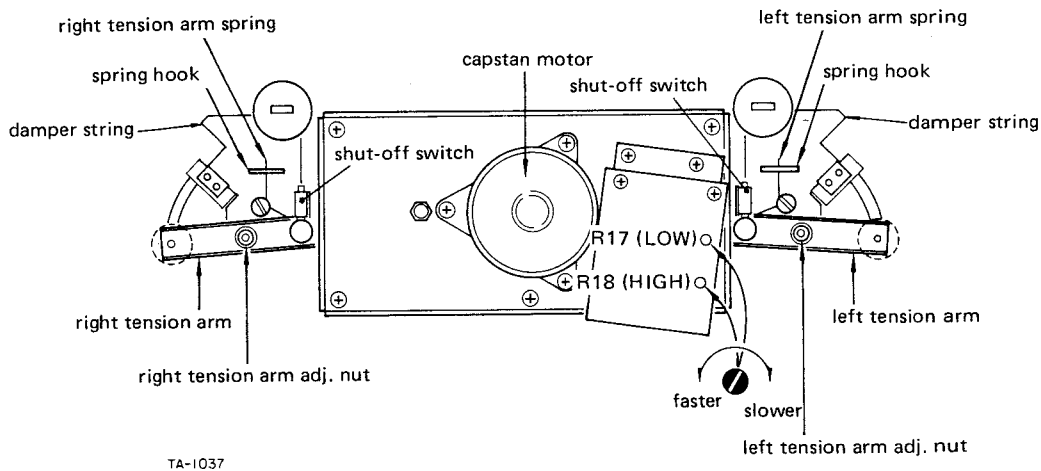

Fig. 2-8 Tension arm height, tension arm force, damper function, and tape speed
3. Stop left (right) guide roller's rotation by hand. Adjust by turning the left (right) tension arm adjusting nut (refer Fig. 2-8) so that the tape moves in the center of the guide roller.
3. Play the tape. Adjust R18 (see Fig. 2-8) for a reading of 3,000 Hz ± 5 Hz.